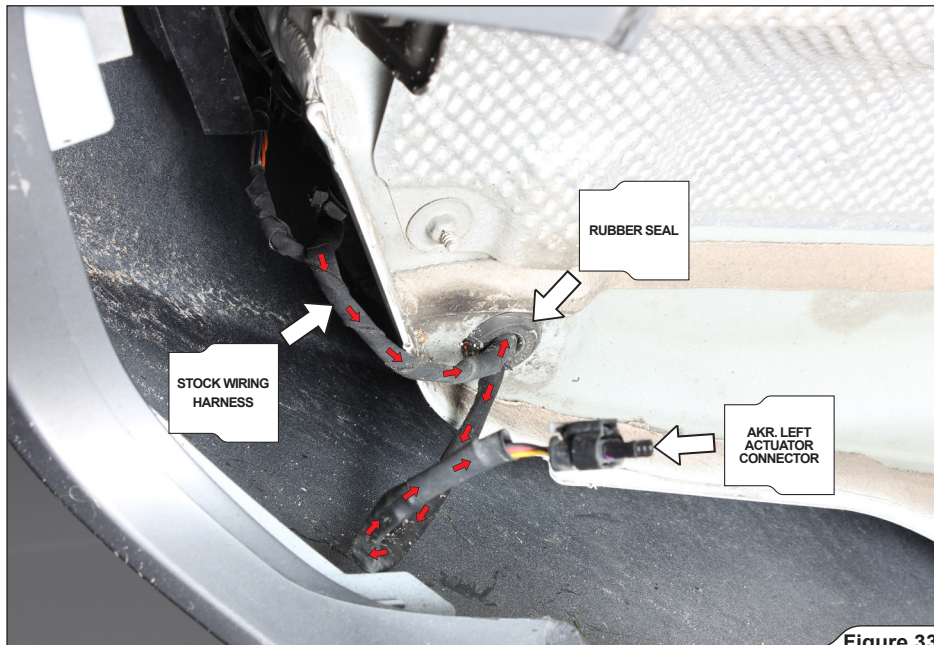

Figure 33
4. Remove the marked rubber seals and cut them half way through; retract the stock exhaust valve's wiring into the trunk through rubber seals holes on both sides of the vehicle, connect the stock connectors to the Akrapović wiring harness connectors; protrude the Akrapović wiring harnesses through the same rubber seal holes and distribute and secure the wiring harness (use tie wraps from Akrapović installation kit), as shown to the left and right side of the trunk (Figure 33, 34).